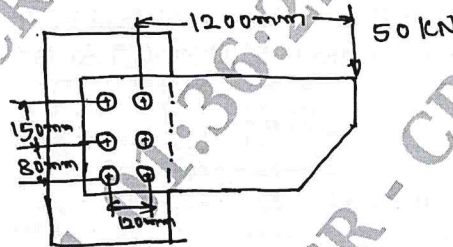

Fig.Q7(b)
b. Determine the diameter of rivet for the joint shown in Fig.Q7(b). The allowable stress in the rivets is  $100 \text{ N/mm}^2$ .